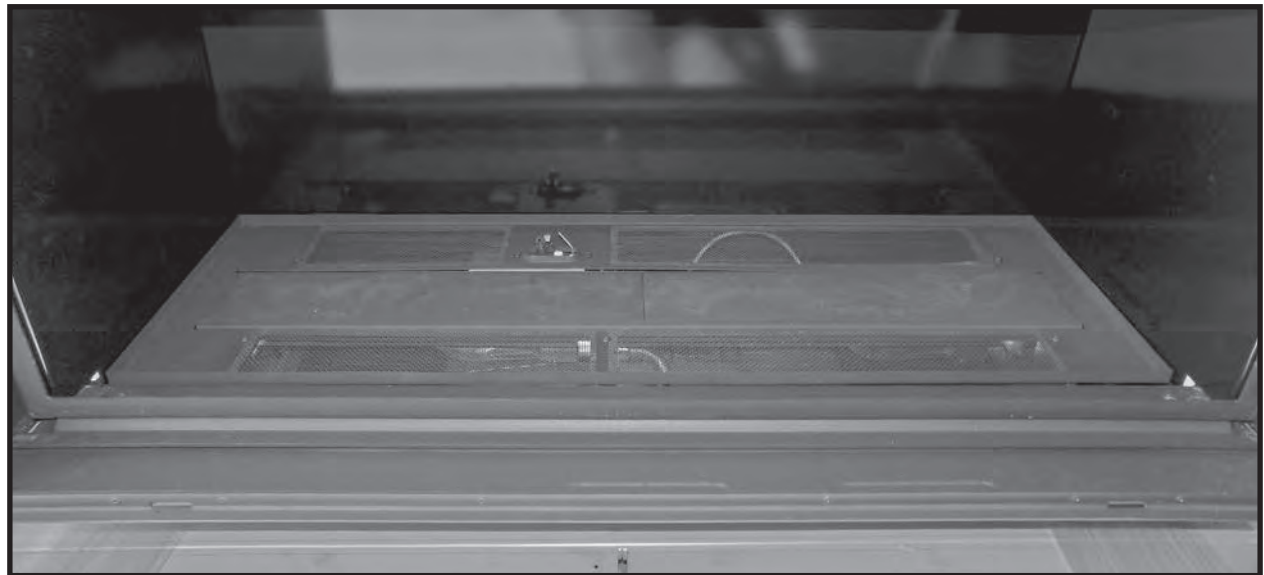

Figure 57: Burner tray installed and secured.
6. Install the burner tray and secure with provided screws (Figure 57).
2. Remove media (sand or glass) completely and remove the fastened burner tray (Figure 57).